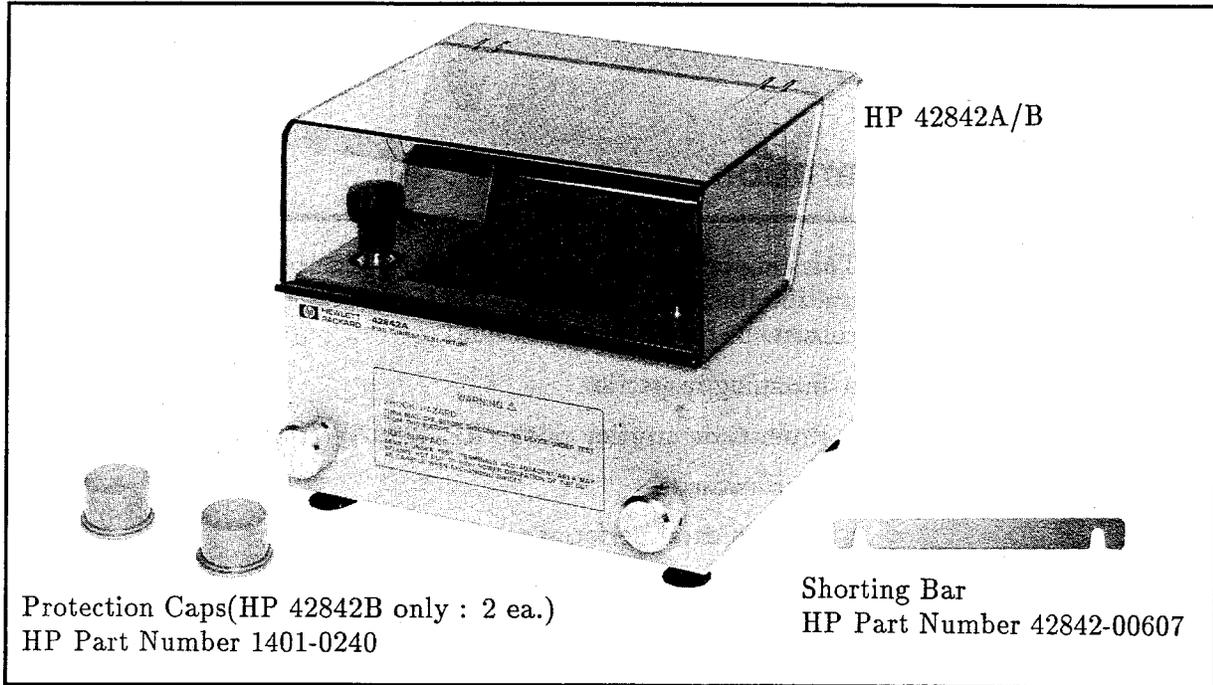
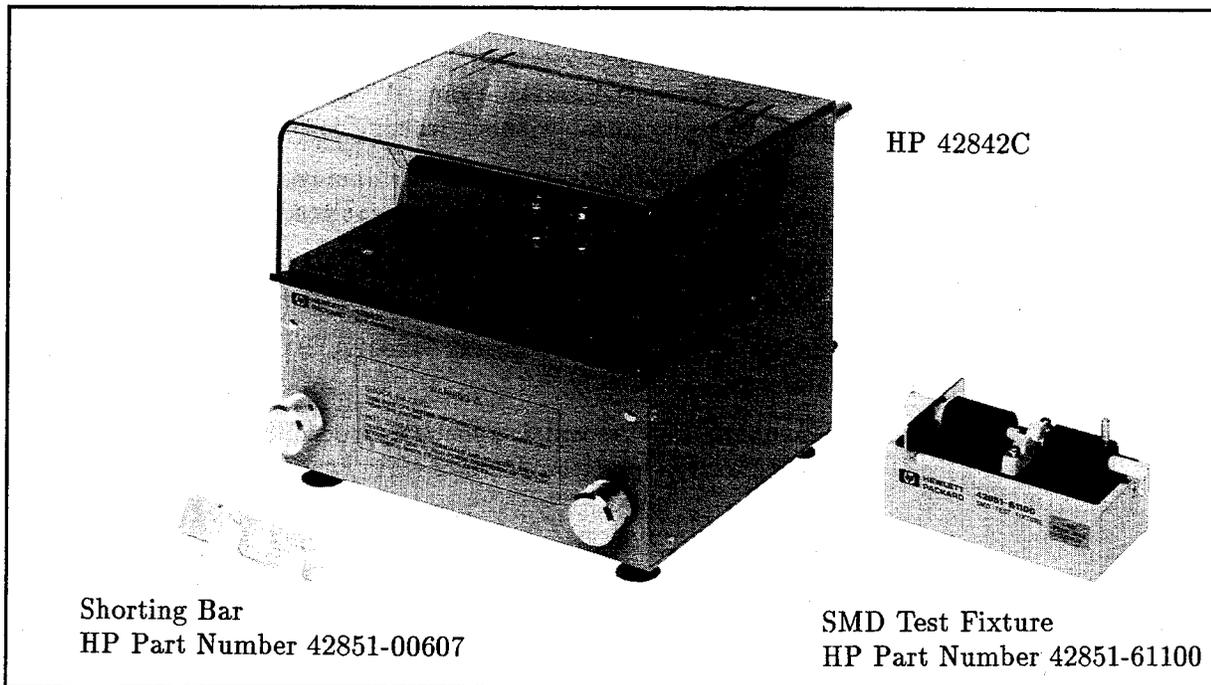

Figure 1-1. HP 42842A/B and Furnished Accessories
Figure 1-2. HP 42842C and Furnished Accessories
2. Verify that the shipping container contains everything shown in Figure 1-1 or Figure 1-2.